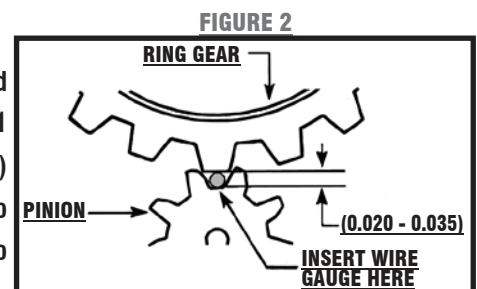

FIGURE 2
- Insert a wire gauge to check for proper clearance between the ring gear and starter pinion (see Figure 2). There should be a 0.020" to 0.035" clearance measured from the valley of the starter pinion to the tip of the ring gear tooth. (NOTE: A #1 standard paper clip is usually about 0.035" in diameter and makes an easy tool.) Check clear-ance at least three places on the ring gear. If the clearance is too small, add one shim at a time between the starter and engine block to bring it into specifications. In many installations, no shims are necessary.